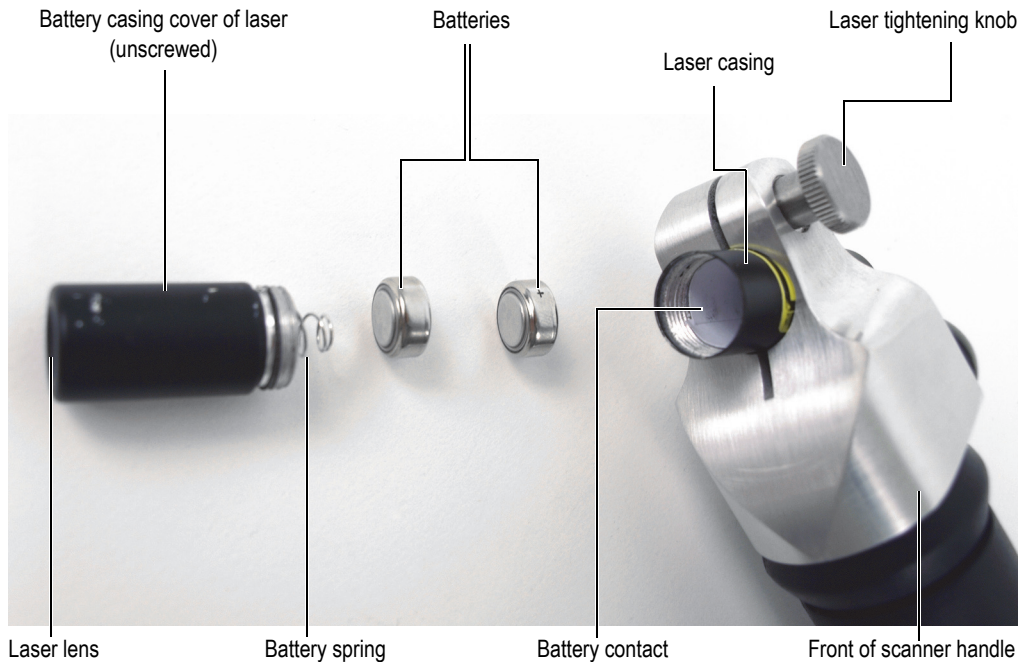

Figure 6-42 Changing the batteries in the laser
1. Unscrew the battery casing cover. This is the part of the laser casing that houses the lens (Figure 6-42 on page 121).